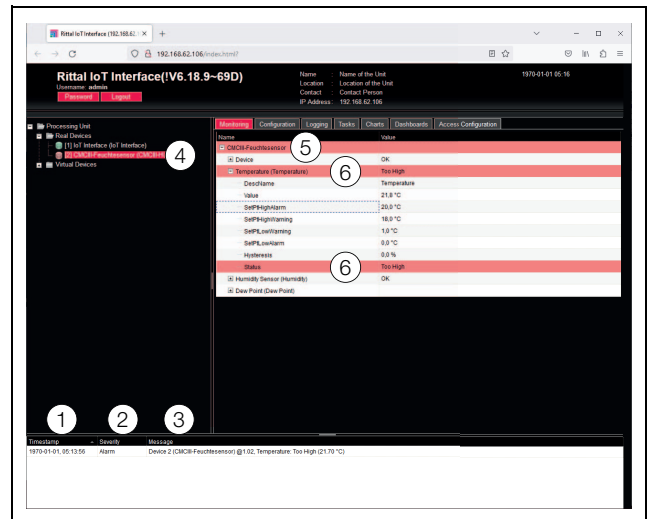

Fig. 21: Structure of the message display
1. Timestamp: Date and time when the error occurred (fig. 21, item 1).
2. Severity: The severity of the error that has occurred. A differentiation is made between warnings and alarms (fig. 21, item 2).
3. Message: Error message in plain text (fig. 21, item 3).
- Left-hand screen area (navigation area): The symbol in front of the component on which the error occurred is colour-highlighted (red for an alarm, yellow for a warning; fig. 21, item 4).
- Right-hand screen area (configuration area): The complete component as well as the special parameters for which the warning or alarm is pending is coloured red or yellow on the **Monitoring** tab (fig. 21, item 5 and 6).